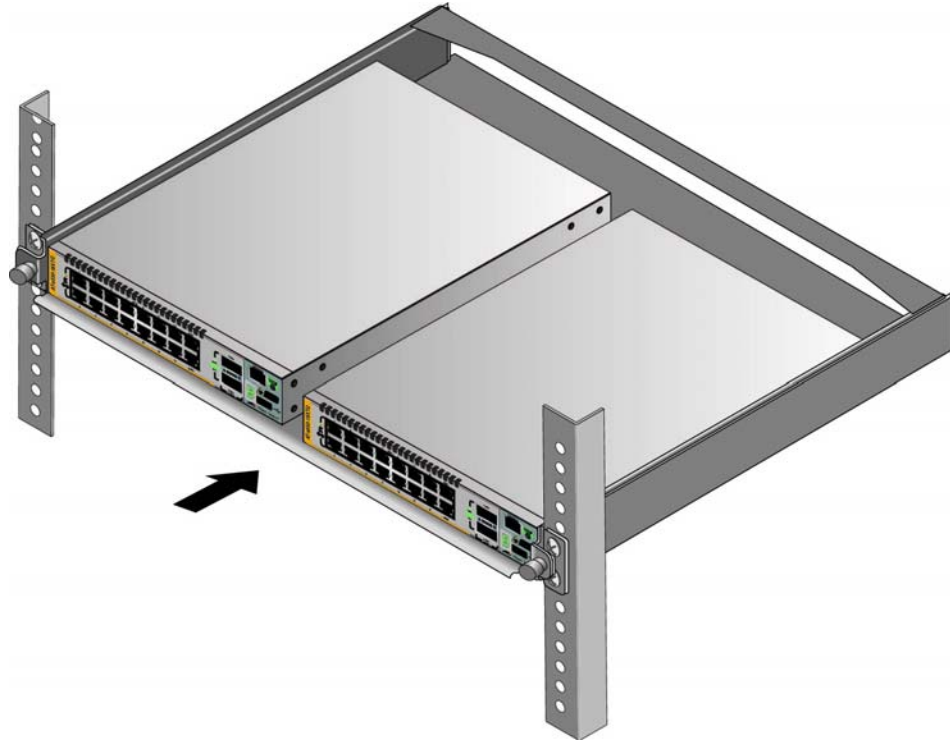

Figure 31. Sliding in the Bracket Tray
10. Slide in the bracket tray. Refer to Figure 31.